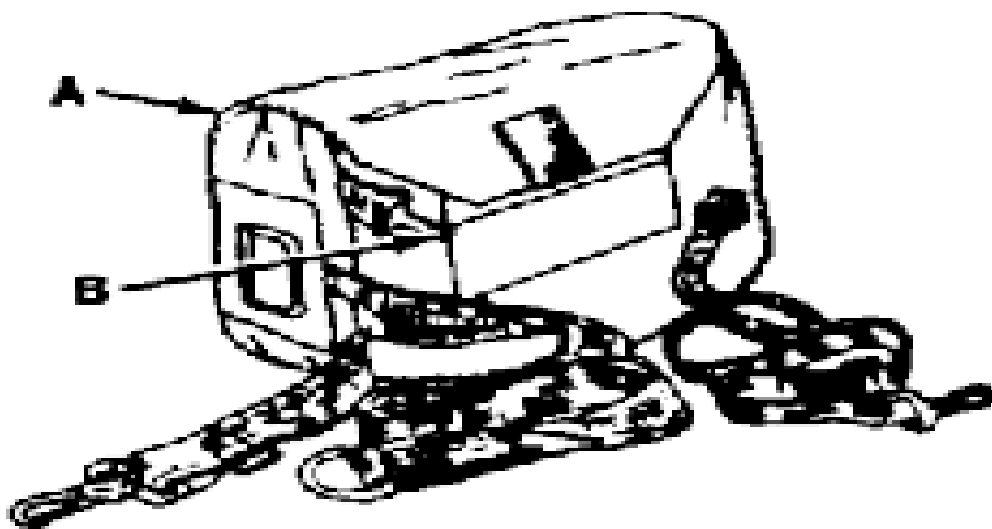

Figure E-71. Mask carrier.
- j. Hang the carrier (A in figure E-71) by the hook (B in figure E-71) on the short strap.